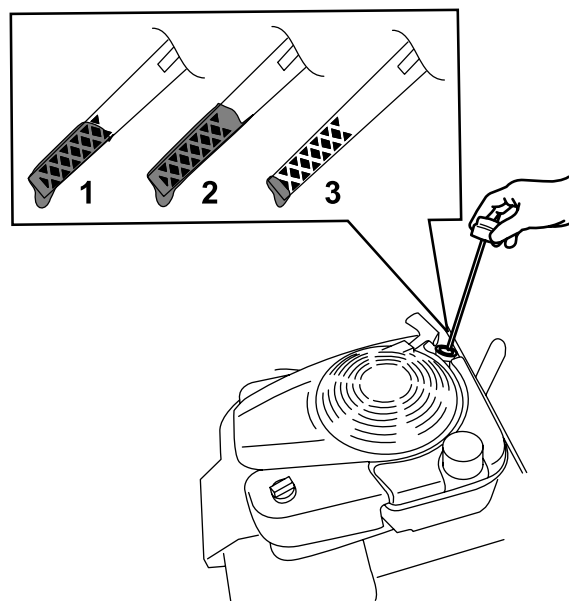

Figure 5
7. Read the oil level on the dipstick (Figure 5).
2. Remove the dipstick by rotating the cap counterclockwise and pulling it out (Figure 5).